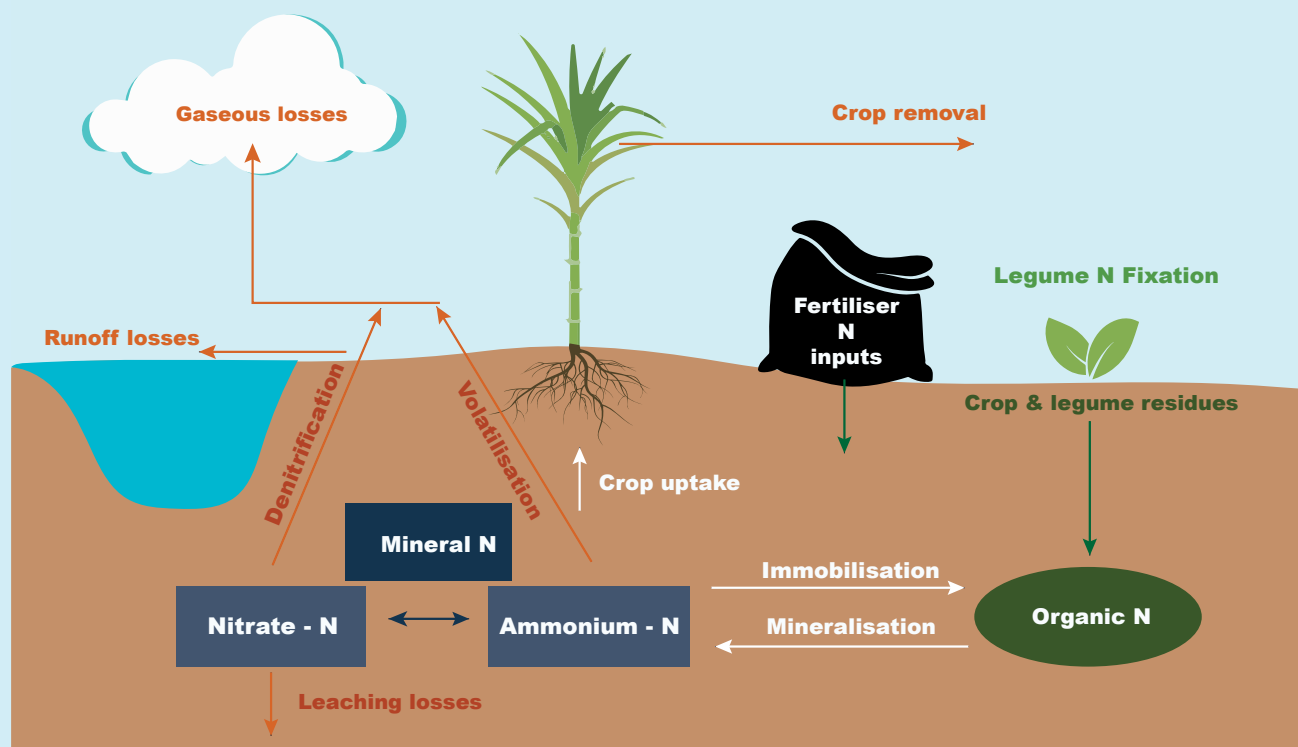

Figure 1. Generalised schematic of N transformations and loss pathways in a typical sugarcane production system.
Nitrogen is an essential nutrient that promotes vigorous growth and sucrose production. However, nitrogen can undergo many transformations in the soil and is very prone to losses. If these losses are not properly managed it will lower the nitrogen use efficiency of the crop as it requires that you need to apply more N (at extra expense) to compensate. This article highlights key N loss pathways and some management approaches to monitor and reduces those losses. The key processes in the nitrogen cycle of a typical sugarcane production system are shown in Figure 1.
- **Intensive tillage.** Tillage may temporarily loosen the soil; however, in the long-term regular tillage depletes soil organic matter making the soil more prone to compaction. In addition, implements such as the mouldboard plough and disk harrow compact the soil beneath their working depth resulting in the development of plough pans (Figure 1).
- **Wheel traffic.** The wheels of vehicles used to harvest crops, pull implements and apply fertilisers, lime and other products are the biggest causes of soil compaction (Figure 1). The image in Figure 2 clearly shows the detrimental effects of tillage and wheel traffic on soil structure and porosity.
Figure 1. (A) Plough pan at a depth of approximately 30 cm in a sugarcane field. (B) Evidence of the effects of compaction and stool damage by heavy wheel traffic on the growth of ratoon cane with the centre row unaffected; rows on either side damaged and compacted by tractor and trailer wheels. (C) A soil profile with three compacted layers.
2. Examining the profiles in **soil pits** for compacted layers (Figure 1 C).